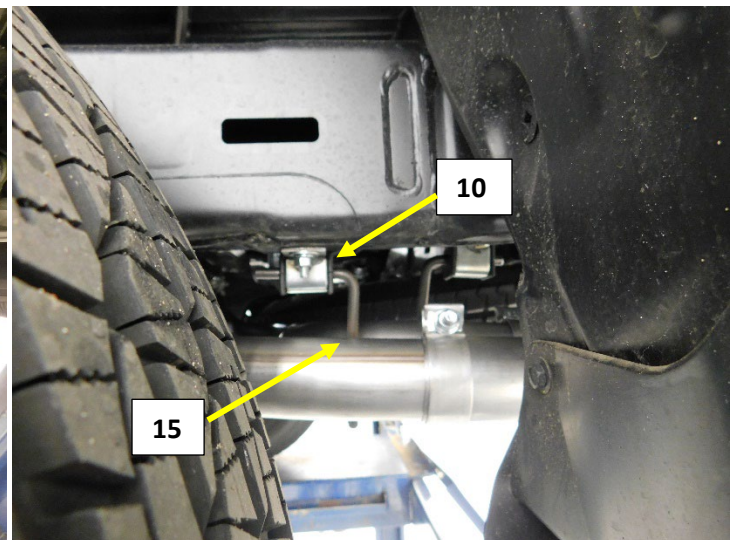

Figure.15
12. Install a supplied tail pipe frame hanger **(10)** on to the left tail pipe hanger rod **(15)**. Rotate the tail pipe up and position the frame hanger on to the bolt **(18)** installed into the frame rail, install a flat washer, lock washer and nut. Use the magnet or screwdriver in place to help hold the bolt as the washers and nut are installed. **Fig.15**